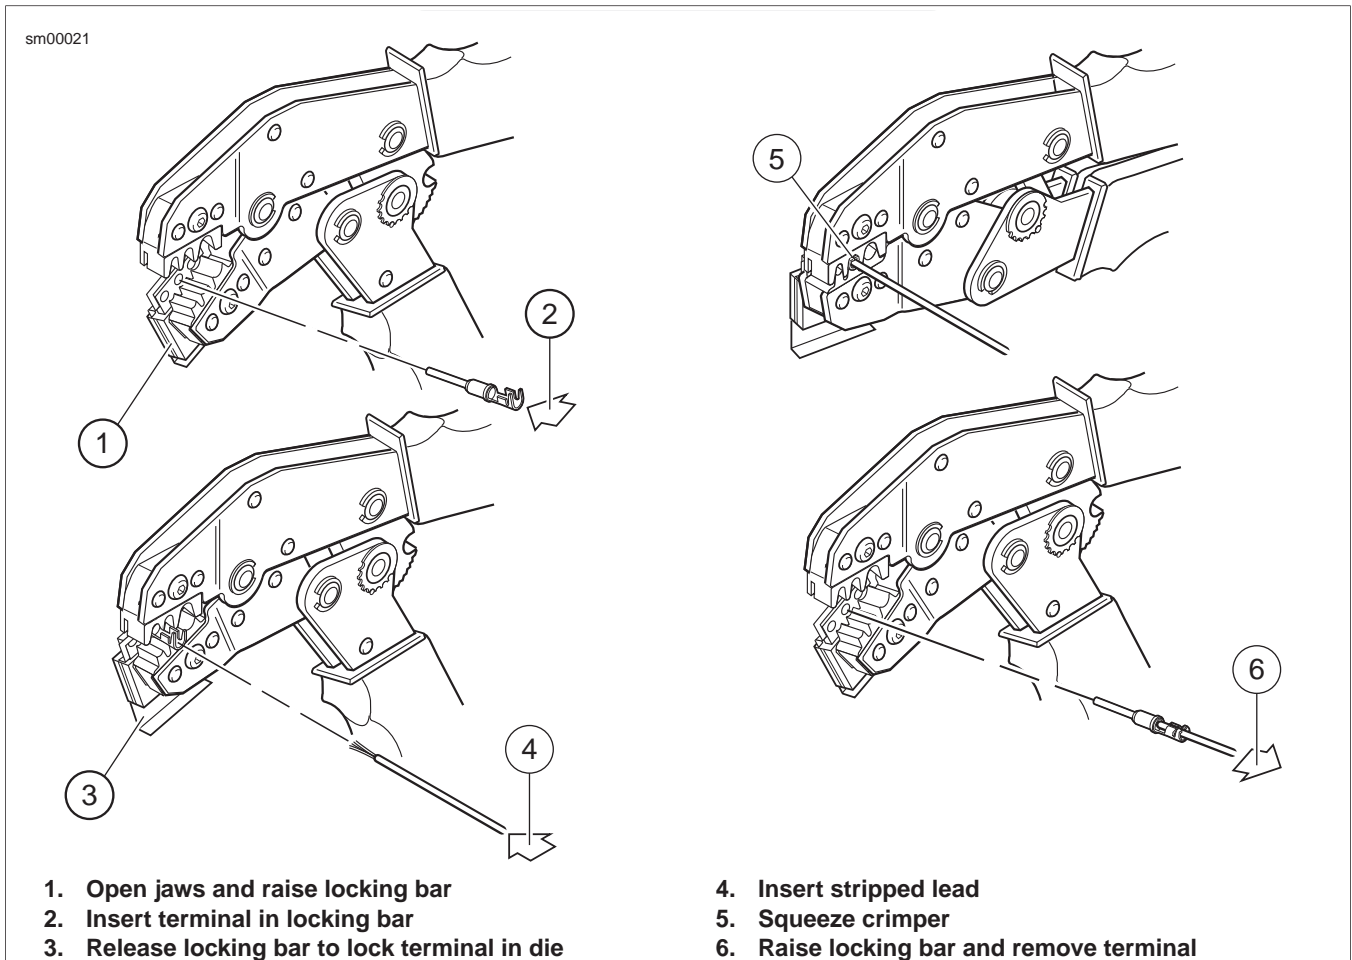

Figure A-17. Crimping a Deutsch Standard Terminal
1. See Figure A-17. Squeeze the handles of the DEUTSCH TERMINAL CRIMP TOOL (Part No. HD-39965-A) to open the jaws. Push the locking bar (1) up.
2. Insert (2) terminal (socket/pin) through hole of the locking bar, so that the rounded side of the contact barrel rests in the nest (concave split level area) with the crimp tails facing upward. To match the wire gauge to the crimp tool die, refer to Table A-3.